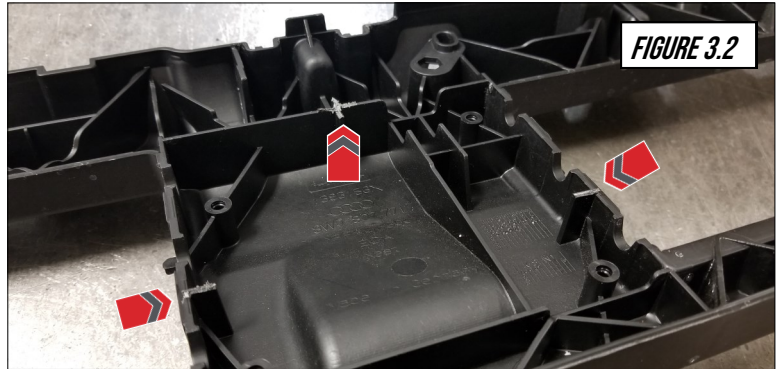

FIGURE 3.2
**NOTE:** Three small tabs on the rear of the front retainer will need to be trimmed for the intercooler to fit properly. The trim locations are shown in **Figure 3.2**.